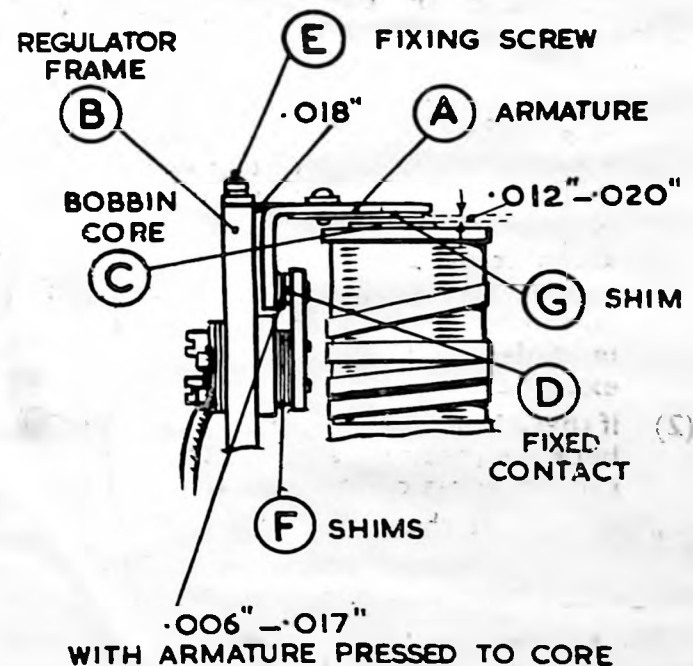

Fig. 5. Mechanical Setting of Regulator.
- (2) **Mechanical Setting.** The mechanical setting of the regulator is accurately adjusted before leaving the works and provided that the armature carrying the moving contact is not removed, the regulator will not require mechanical adjustment. If however, the armature has been removed from the regulator for any reason, the contacts will have to be reset. To do this proceed as follows:— Slacken the two armature fixing screws (Fig. 5 page V5). Insert a .018 in. (.457 mm.) feeler gauge between the back of the armature and the regulator frame.